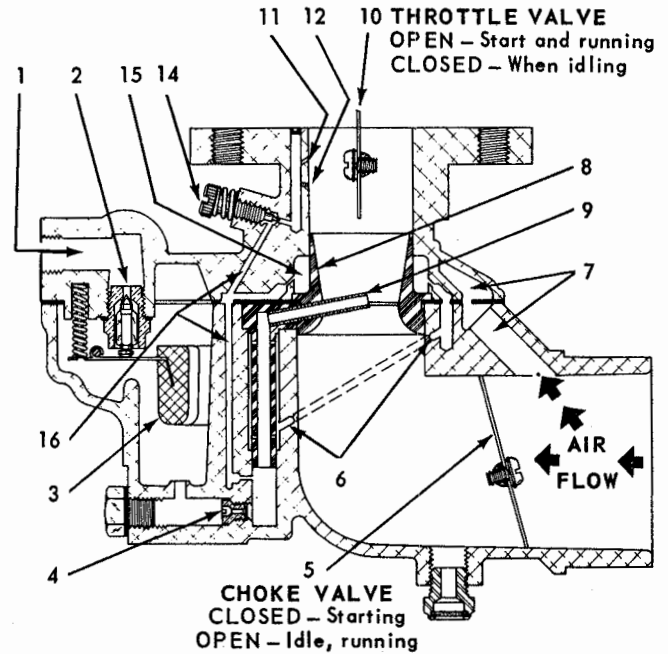
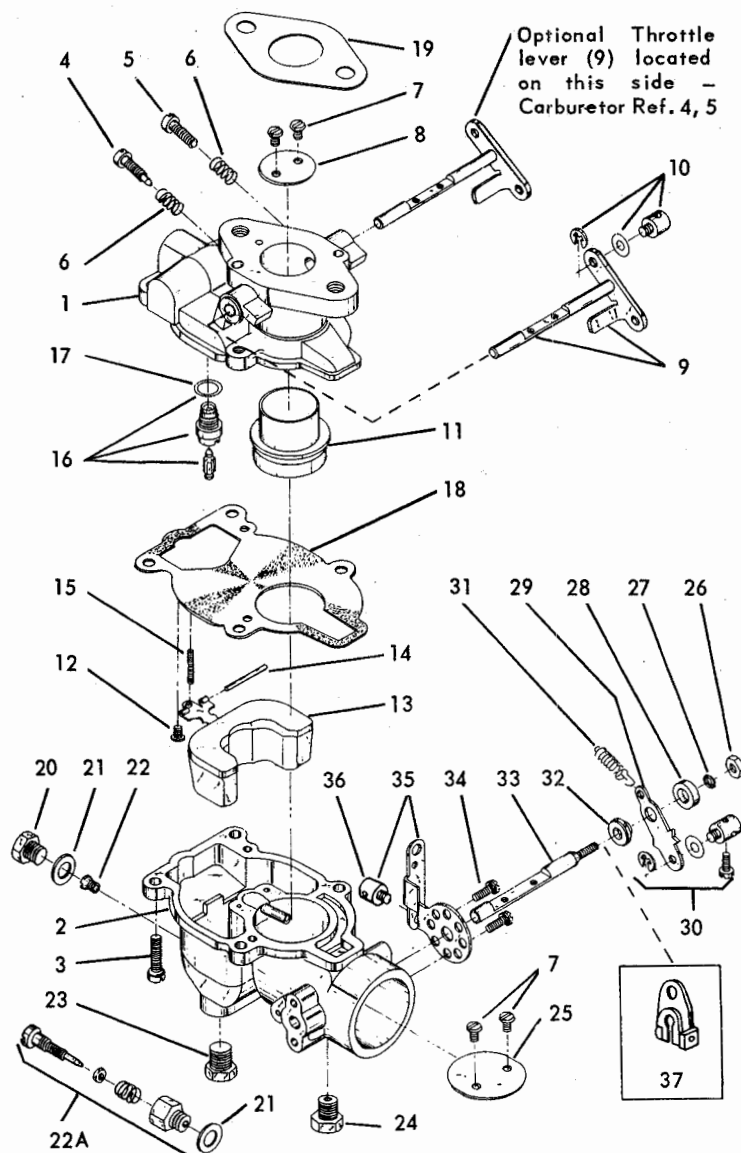

Fig. 1
Fig. 3 EXPLODED VIEW
OPERATION, Fig. 1
For a complete disassembly, follow the sequence of part reference numbers in the carburetor exploded view, Fig. 3. Nozzle Ref. 9, Fig. 1 is not removable.
ADJUSTMENTS, Fig. 1
Turn Idle speed screw (5), Fig. 3, in until throttle valve is slightly open. With engine warmed up and running, turn adjusting screw in or out as required to obtain desired low idle speed (1000 to 1200 r.p.m.).
The Main Metering Jet (4), for high speed operation is fixed (not adjustable), as standard equipment, and used in the majority of engine applications. However, an Adjustable Jet carburetor is available, and the High Speed Adjustment is made by means of the Needle Assembly, Item 22A of Fig. 3, in the following manner: